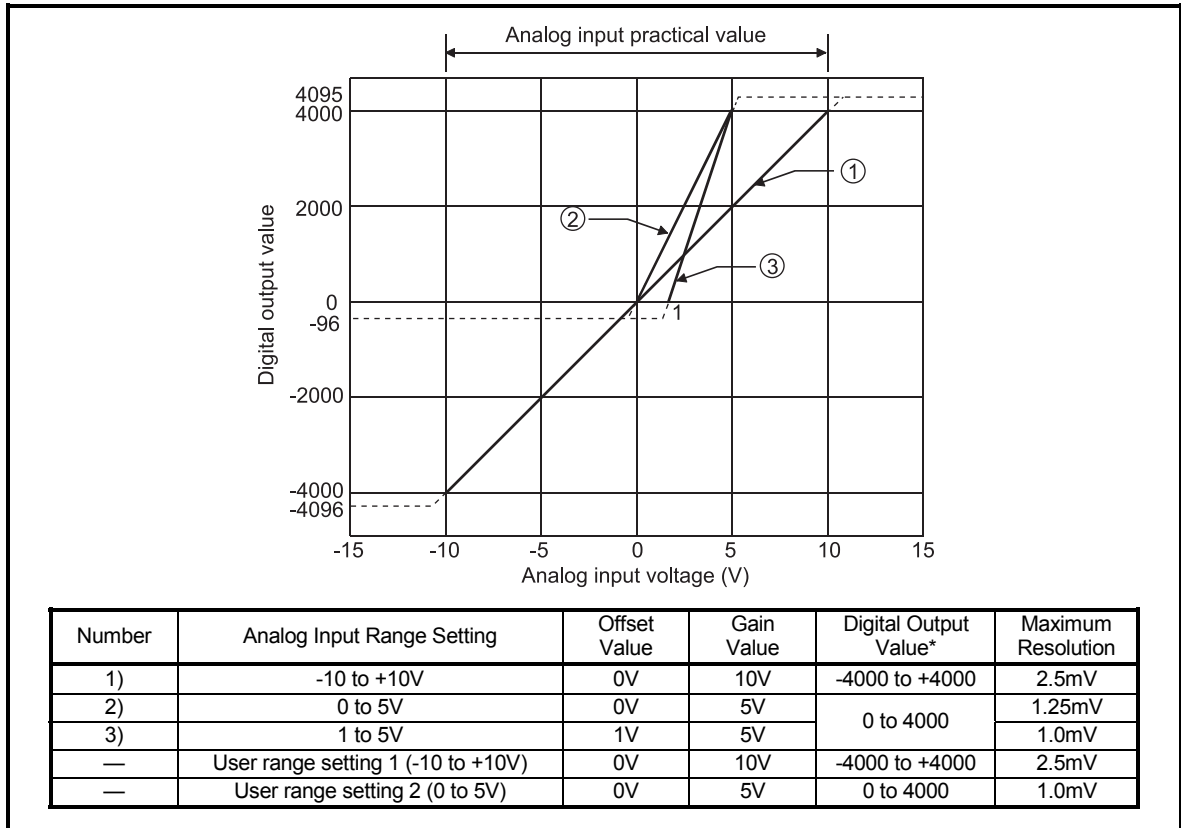

Fig. 3.1 Voltage Input Characteristic
<p>(1) Do not input more than ±15V. The element may be damaged.</p> <p>(2) If the analog input provided corresponds to the digital output value* beyond its range, the digital output value is fixed to the maximum or minimum.</p> <ul style="list-style-type: none"> <li>• For 0 to 4000, the digital output value is within the range -96 to 4095.</li> <li>• For -4000 to +4000, the digital output value is within the range -4096 to +4095.</li> </ul> <p>(3) Within the analog input and digital output scopes of each input range, the maximum resolution and accuracy are within the performance specification range. Outside those scopes, however, they may not fall within the performance specification range. (Avoid using the dotted line part in Fig. 3.1.)</p> <p>(4) Set the offset and gain values of the user range setting within the range satisfying the following conditions.</p> <p>(a) Setting range when user range setting 1 is selected: -10 to +10V</p> <p>(b) Setting range when user range setting 2 is selected: 0 to 5V</p> <p>(c) (Gain value) &gt; (Offset value)</p> <p>If you attempt to make setting outside the setting range of (a) or (b), the "RUN" LED flickers at 0.5s intervals. Set the values within the setting range.</p> <p>If you attempt to make setting outside the setting range of (c), the "RUN" LED flickers at 0.5s intervals. Make setting again.</p>